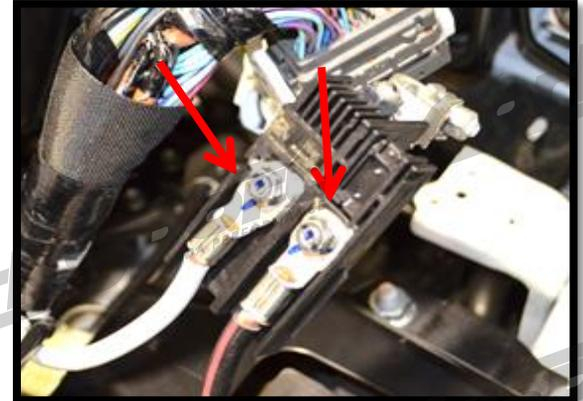

Figure 2c
- c) Remove the two large power wires from the positive battery terminal connector and set it aside. (Figure 2c)
- f) Re-attach the large power wires to the positive battery terminal connector. (**Red Arrows Figure 2c and 3c**)
- c) Using a 10mm socket wrench, remove the two large power wires from the positive battery terminal connector and set it aside. (Red Arrows in Figure 2c)
- f) Re-attach the large power wires to the positive battery terminal connector as shown. White attaches on the passenger side of the connector, and Black w/ Red on the drivers side. (Red Arrows Figure 2c and 3c)